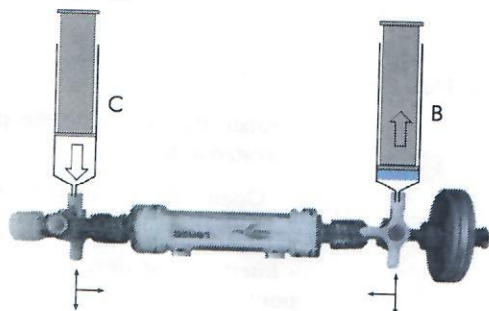

Fig 6
- Rotate the valve 6 to the position indicated in figure 6.
- Rotate the valve 3 and 6 in order to open the device (see fig 6)